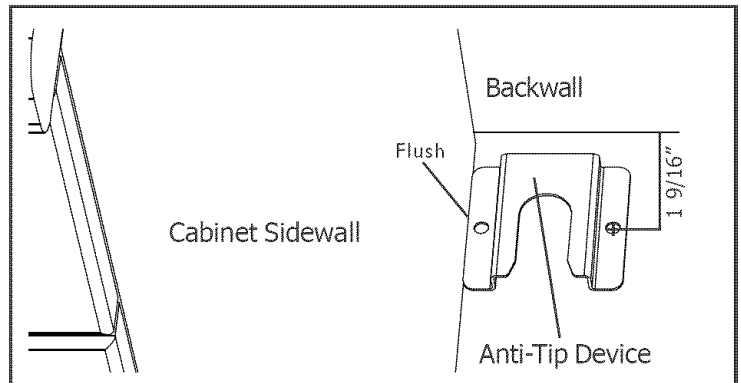

Figure 3
2. Measure to locate bracket position as shown in Figure 3.